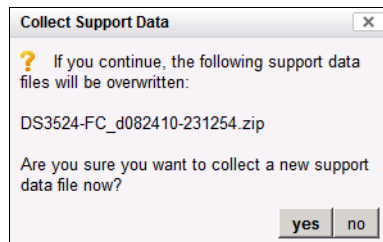

Figure 14-27 Collect Support Data immediately
3. Click the **Life Preserver** icon to save a data collection immediately. You might see a message alerting you that an older support bundle will be over-written, as shown in Figure 14-27. Click the **Yes** button to continue.